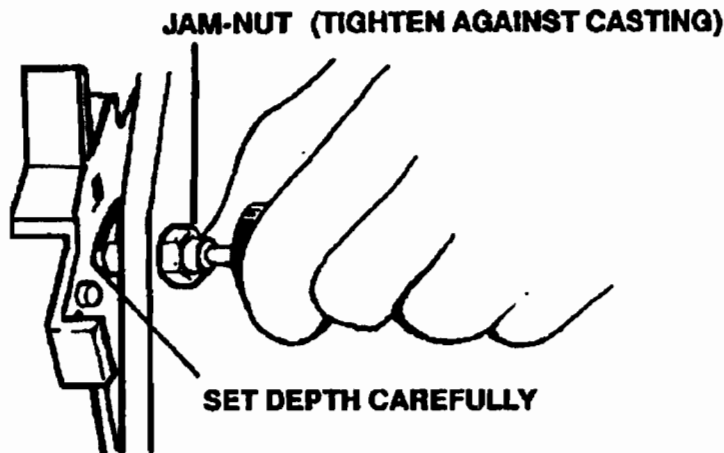

Figure 18. Adjusting the Platen Handle Spring Plunger
- c. Snug-down then securely tighten the three 4mm platen mounting screws in the following sequence: (1) Center, (2) Left, (3) Right.
- d. Tighten the "jam-nut" against the side wall of the casting to prevent movement of the plunger body. (You can turn or hold the plunger body using a 17mm open-end or adjustable end-wrench on the flattened area on the side (see Figure 18).